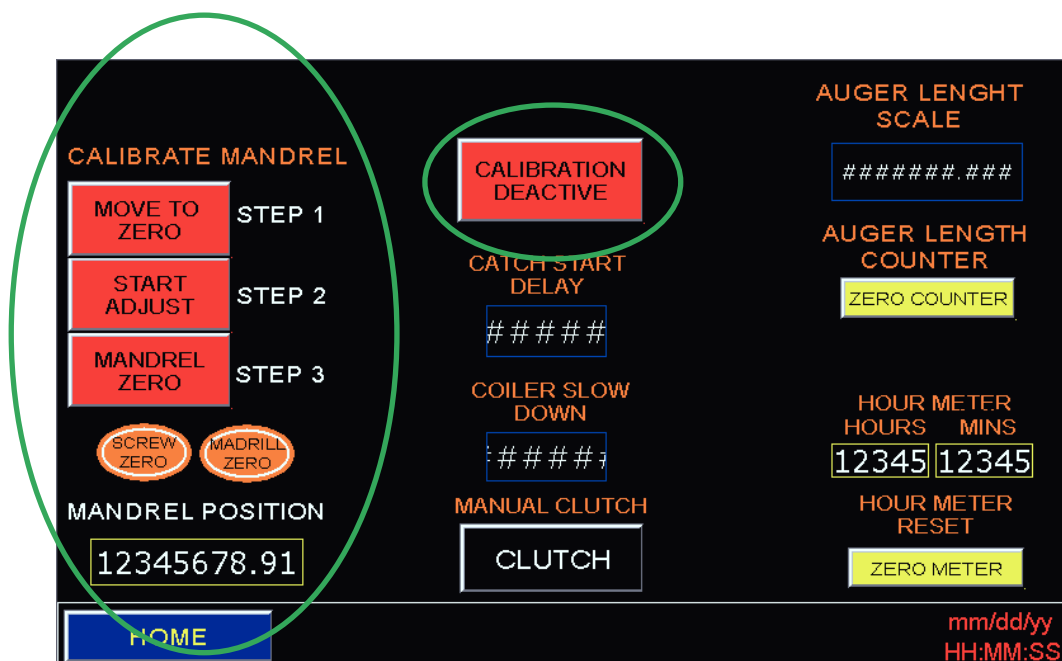

Figure 21: Calibration screen on HMI
2. Activate the calibration function by pushing the CALIBRATION DEACTIVE button in the top middle of the screen (Figure 21). The button will change colour and calibration will be ACTIVE.
The system is programmed to slow down before the desired length is reached to avoid overrun. The slow down point is set to a default of 2 meters before the final set length. The default slow down point can be altered on the calibration screen (Figure 21) by entering a value in the COILER SLOW DOWN block.